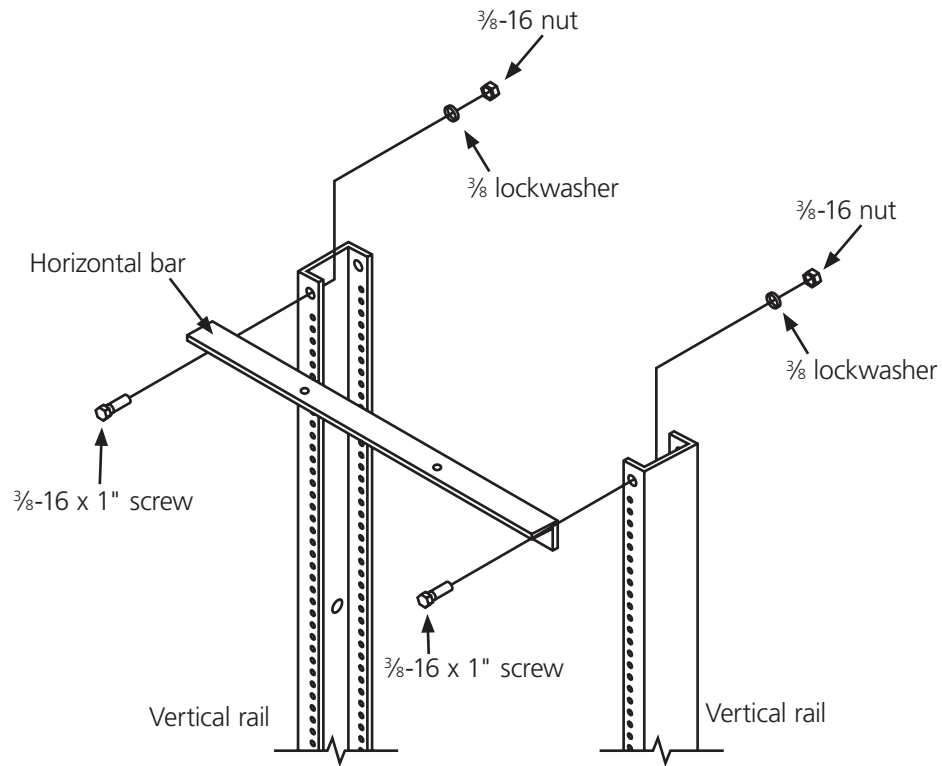

Figure 1. Attaching the horizontal bar to the vertical rails.
1. Using (2) $\frac{3}{8}$ -16 x 1" screws, (2) $\frac{3}{8}$ lockwashers, and (2) $\frac{3}{8}$ -16 nuts, connect the flat horizontal bar to the front side of the first pair of vertical rails. See Figure 1.